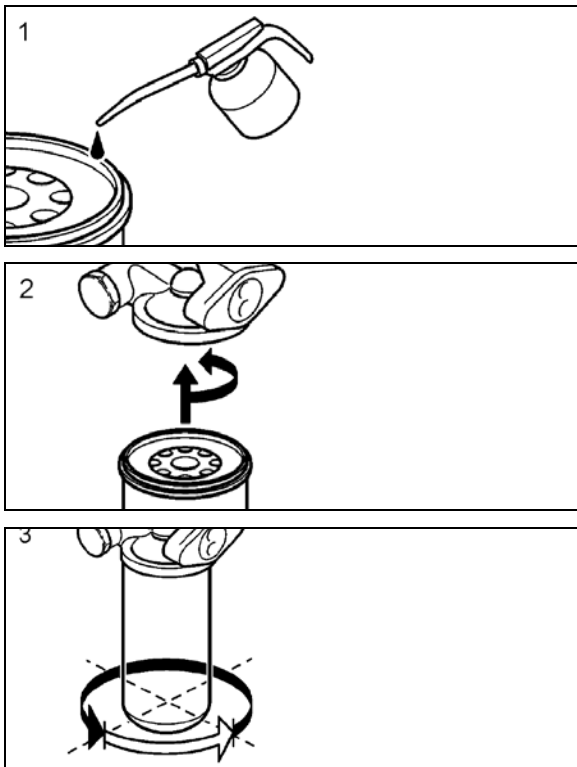

FIGURE 9: OIL FILTER REPLACEMENT
- Prefill the new oil filters with approved engine oil. Refer to Figure 9, also, lubricate the filter gaskets with engine oil (1). Hand tightens the oil filters until they contact the sealing surface of the oil filter housing (2). Manually tighten the oil filters an additional $\frac{3}{4}$ to 1 full turn (3).